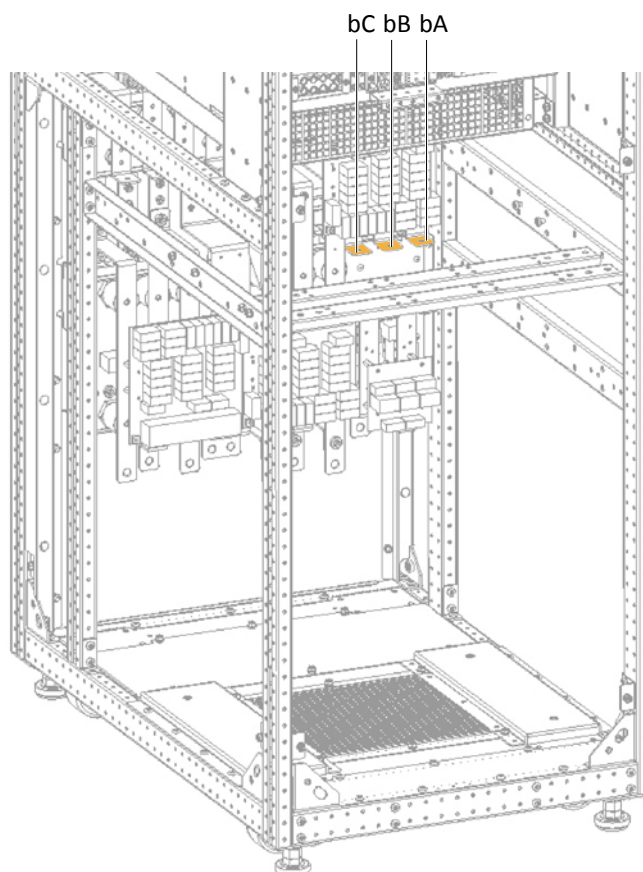

Figure 8-8 Removing cables
4. Remove the cables W61, W62 and W63 from terminals bA, bB and bC, see Figure 8-8.